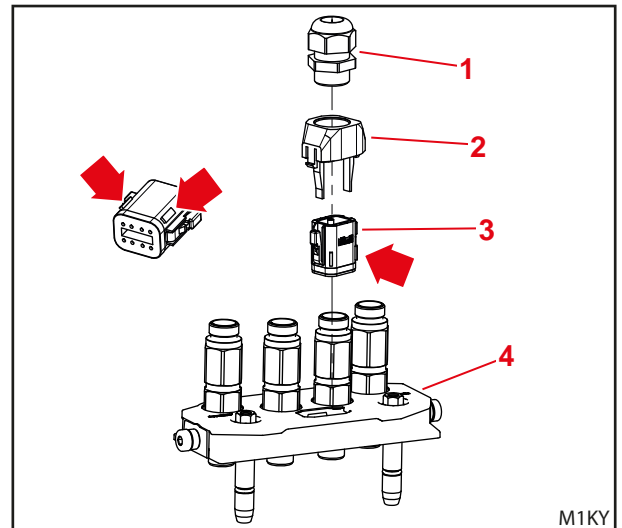

Fig. 9 Installing the Hydro-Fix upper part (front loader with electrical system)
- (4) Insert the socket housing on the Hydro-Fix upper part so that the "lugs" (see red arrow in Fig. 9) are pointing to the front.
- (5) Insert the cap (wide side towards the hydraulic connections).
- (6) Screw the PG gland on the cap.
- (7) Tighten the compression nut of the cable gland. (Strain relief)